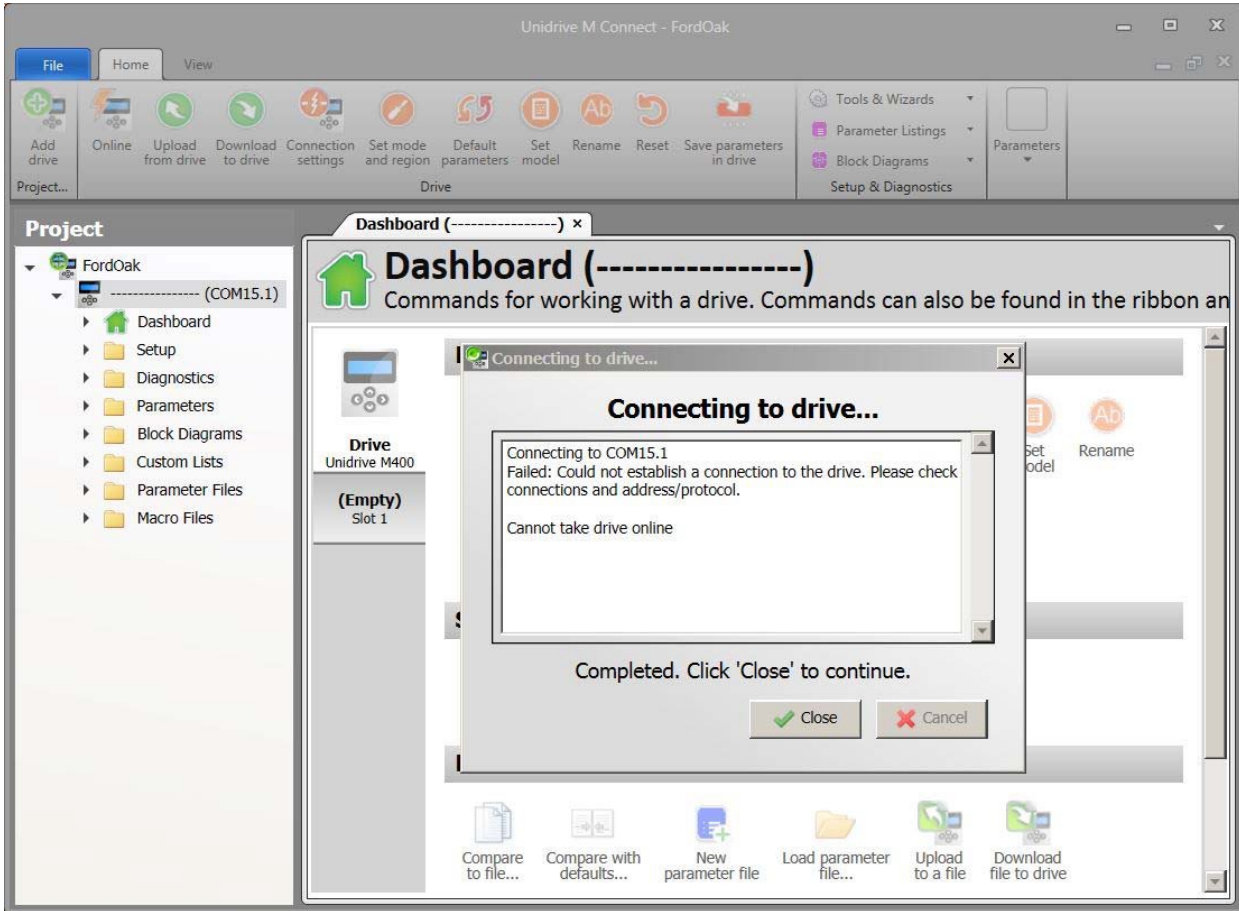

Figure 17
6. If, no on-line drives are found on the network a dialog-box similar to the image in Figure 17 will be displayed.